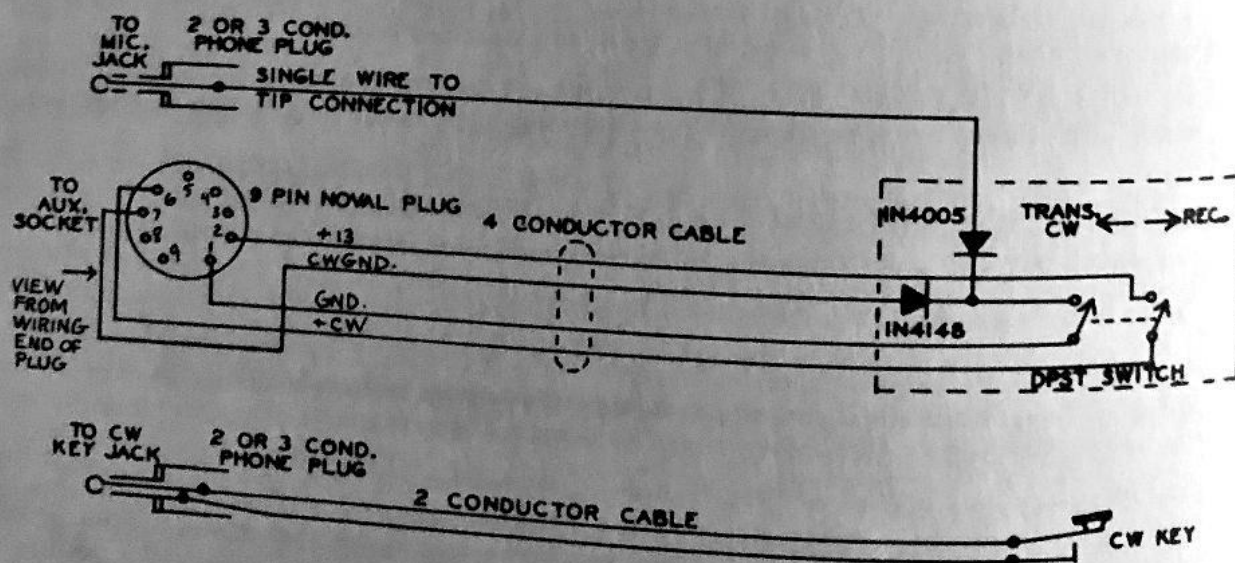

Figure 2-1. Remote CW Transmit Switch for ATLAS Transceivers
**2-18. REMOTE CW TRANSMIT SWITCH FOR ATLAS TRANSCEIVERS.** The Atlas transceivers have a function switch which provides for switching into the CW Transmit mode. However, it requires switching from the REC. to TRANS., and then to the CW position. This procedure is rather awkward, and the circuit shown below (Figure 2-1) provides a more convenient system.